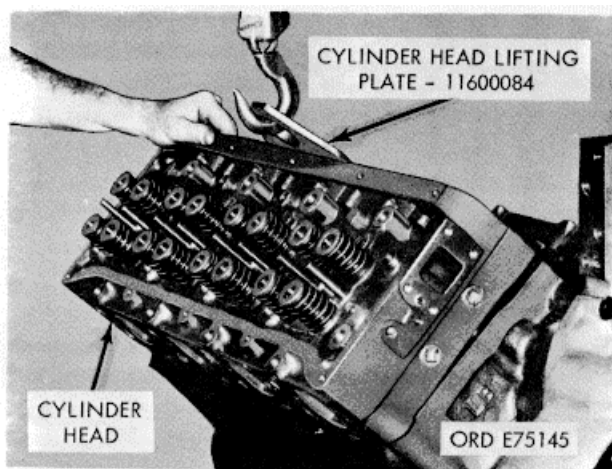

Figure 2-19. Cylinder heads - removal/installation.
*f. Cylinder Heads* (fig. 2-19).